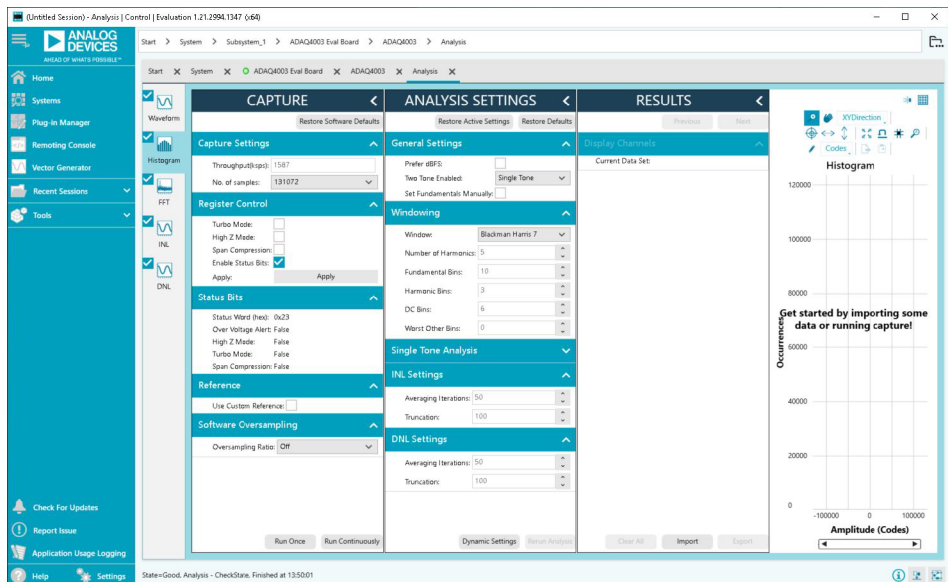

Figure 19. Analysis View Window
6. Click the **Proceed to Analysis** button to show the **Analysis** view window, as shown in Figure 19.